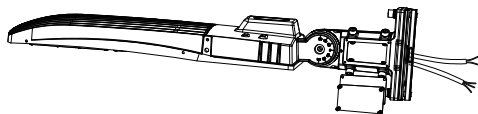

Figure 5
- Step 1: Remove the bracket mounting screws on the fixture, open the side lid of bracket and run the wires through the bracket. (Figure 5)